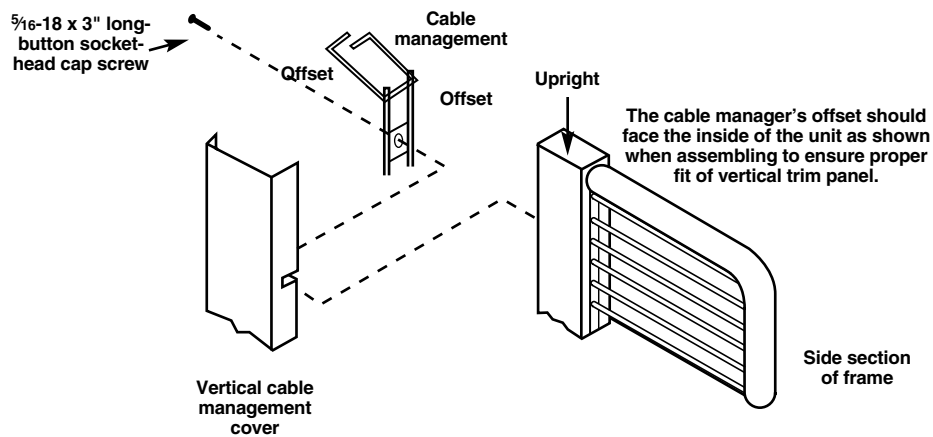

Figure 3-1. Attaching the cable management and cable management cover to the upright and frame.
3. Assemble the cable management and cable management cover to the uprights and frame as shown in Figures 3-1 and 3-2. Use the included hardware: ten $\frac{5}{16}$ -18 x 3" long-button socket-head cap screws, ten washers, and ten $\frac{5}{16}$ -18 hex nuts. Use five of each on each side of the frame.